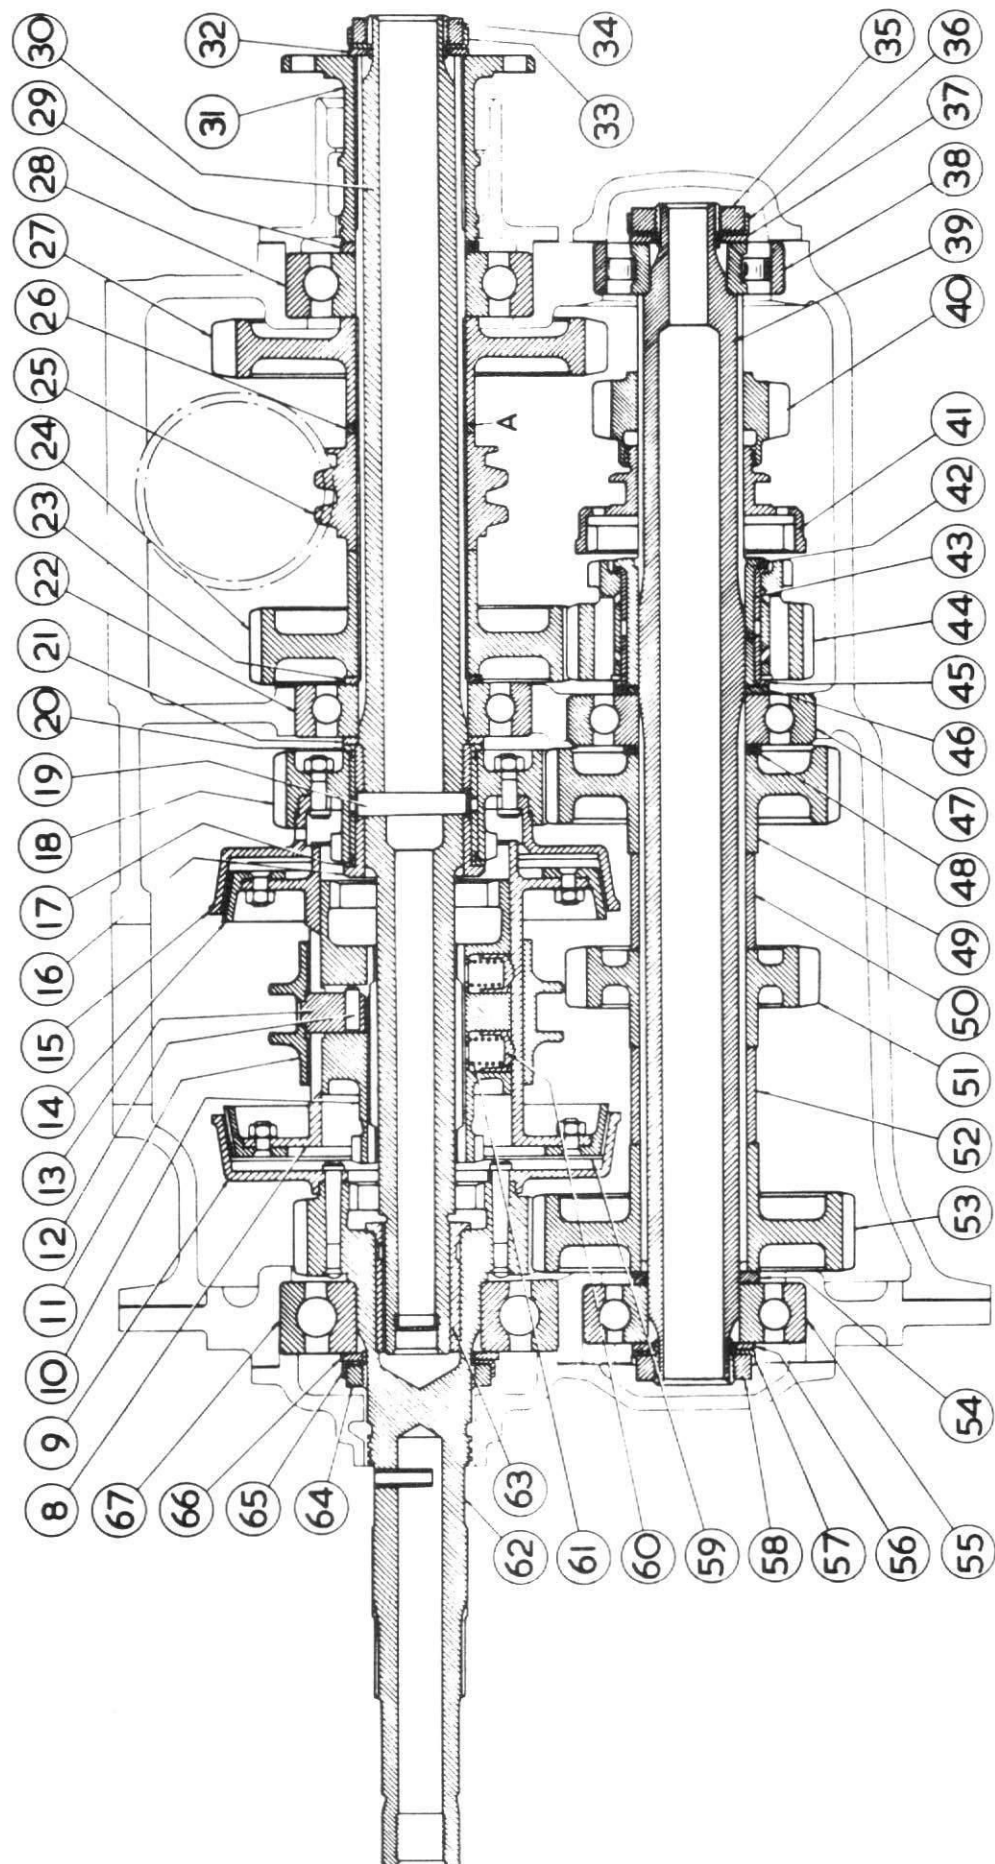

FIG.2. SECTION - 1ST, 2ND AND 3RD MOTION SHAFTS.
- a) Place a circular lever (about 14" long x 7/16" dia.) through the aperture at the top of the front end of the gearbox, enter the lever in the stirrup groove of the 3rd and 4th speed actuating sleeve (11 Fig.2) and push the sleeve towards the rear of the gearbox to engage the 3rd speed gear.
- (xv) Remove the retaining nut, 34 (R.H.thread) from the rear end of the 3rd motion shaft, collect the clamping washer (32) and withdraw the coupling flange (31) from the shaft.
- (xvi) Remove the gearbox support bracket from the rear of the box and the cover for the 3rd motion shaft complete with oil drain pipe (if the latter is fitted). Remove the adjusting washer (29) and TIE it to the coupling flange.
- (xvii) Remove the cover (secured by 11 nuts) from the front end of the gearbox, collect the thin metal oil baffle adjacent to the ball bearing of the 1st motion shaft and the aluminium distance piece adjacent to the ball bearing at the front end of the 2nd motion shaft. Remove the nut, 58 (R.H.thread) from the front end of the 2nd motion shaft and collect the clamping washer (56).
- (xviii) Remove the nut, 64 (L.H.thread) from the 1st motion shaft and collect the clamping washer (66).
Notation List for Fig.2.